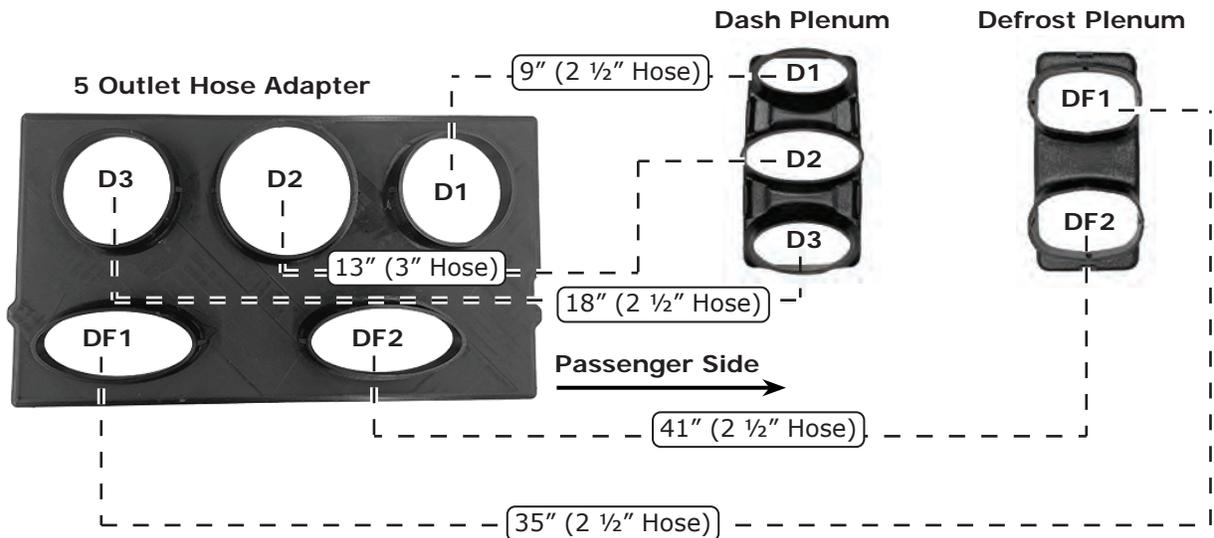

Figure 1
2. Connect the 2 ½" duct hoses to Defrost 1 (DF1) and Defrost 2 (DF2) on the hose adapter as shown in Figure 1, below. Leave the other ends of the duct hoses disconnected on the driver-side floorboard.
3. Connect the 2 ½" and 3" duct hoses onto Dash 1 (D1), Dash 2 (D2) and Dash 3 (D3) on the hose adapter, then onto the dash plenum as shown in Figure 1 and Photo 2, below.
4. Finally, connect the 2 ½" duct hoses from the hose adapter onto Defrost 1 (DF1) and Defrost 2 (DF2) on the defrost plenum as shown in Figure 1, below.